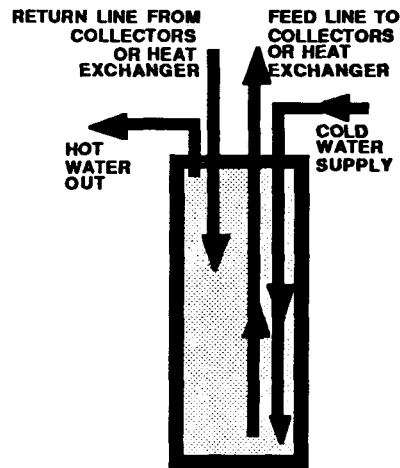

FIGURE 4-9
4.3.12 Storage Tanks. Problems with storage tanks may actually be caused by piping errors. One of the most common is mixing up inlets and outlets. Another problem is the length of dip tubes. If they are too short or too long, the tank may not be able to store or deliver its full heat capacity. (Figure 4-9)